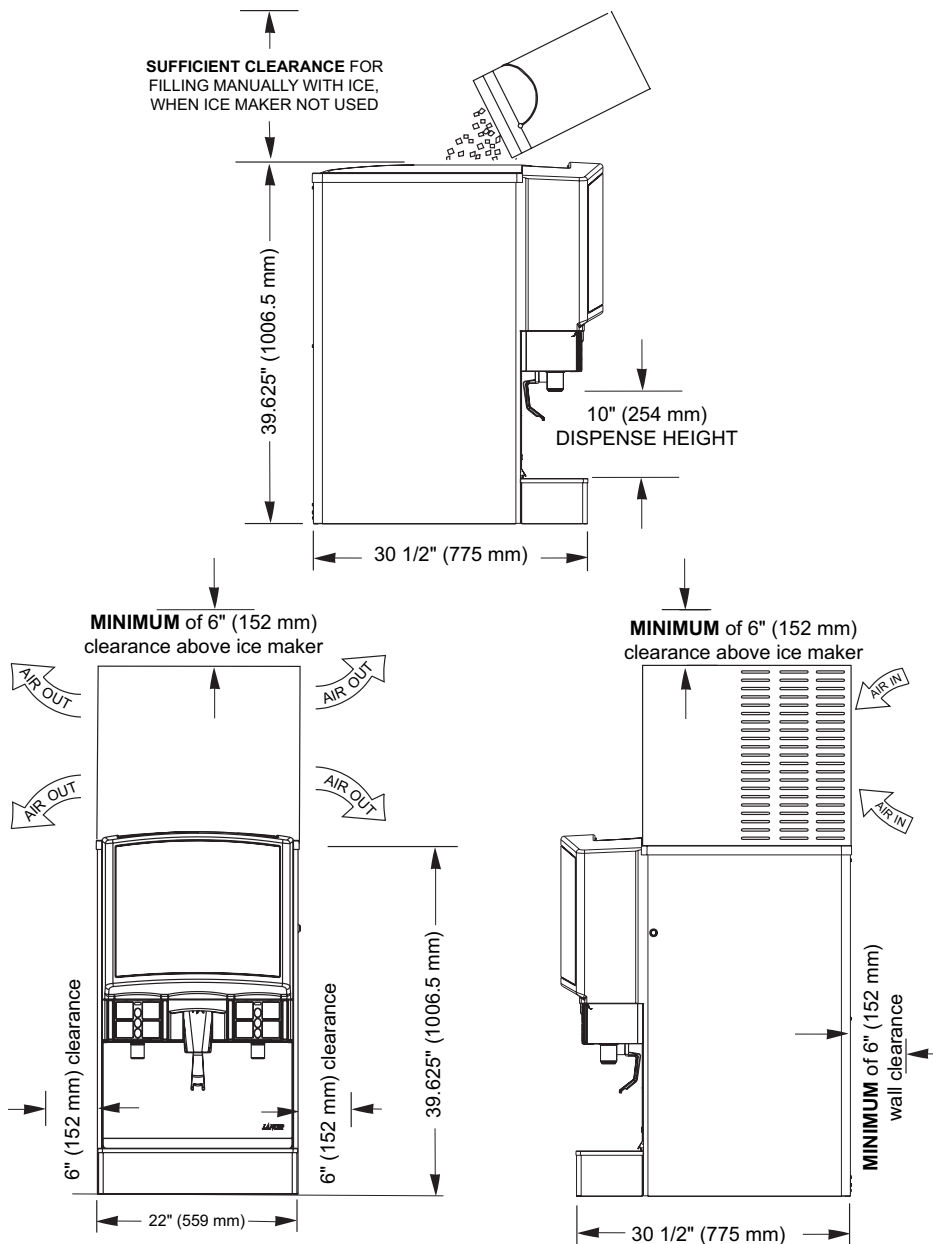

Figure 1
1.3 SELECTING COUNTER LOCATION (SEE FIGURE 1)
- C. **Location must insure sufficient clearance** on sides, top and back of unit is provided for ventilation and air circulation (see Figure 1).
- D. Additionally, if an ice maker is not top mounted on the unit, sufficient clearance should be provided [a minimum of 16 inches (40.6 cm) is recommended] to allow filling the unit with ice from a five (5) gallon (19 liter) container (see Figure 1).